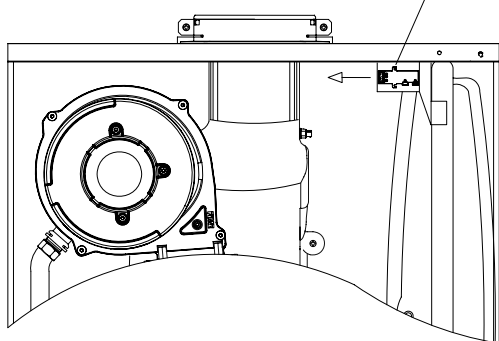

Fig.41
8.4 TO REMOVE/REPLACE SPARK IGNITER BOX (Fig. 41)